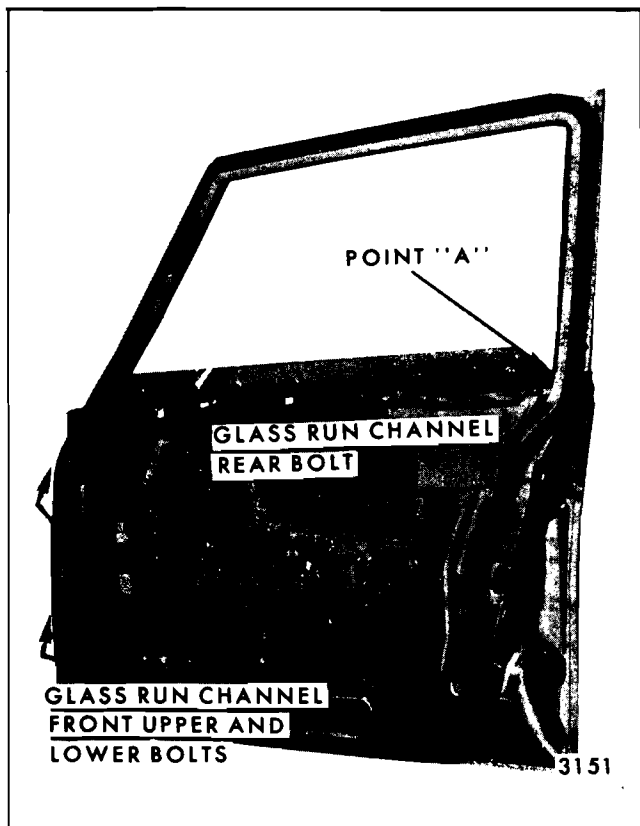

Fig. 6-101—Glass Run Channel Installation "B" Closed Styles
2. On "B-11" styles, remove front and rear glass run channel attaching bolts (Figure 6-101). On "B-36, 46 and 69" styles, remove glass run channel rear bolt (Figure 6-101).
upper and lower bolts. Remove through access hole, Figure 6-101.
6. To install, reverse removal procedure. Begin installation by installing glass run channel rear attaching bolt (Figure 6-101). Starting at Point "A", Figure 6-101, engage run channel attaching clips into door upper frame making certain that run channel is fully seated, particularly at upper corners.